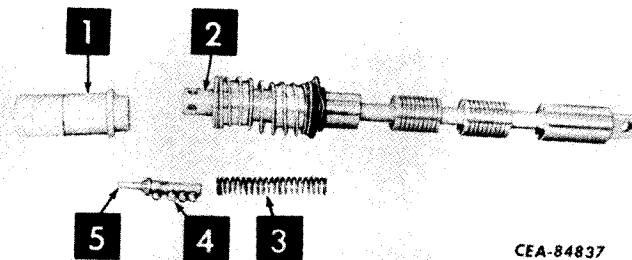

Figure 11-46
After removing plunger cap (1, Fig. 11-46) from the plunger pin (2), slide spring (3), detent cam (5) and detent balls (4) from plunger assembly.
Install detent cam (5, Fig. 11-46) and spring (3) in bore of plunger pin (2) after lubricating cam assembly liberally with multi-purpose grease. Place a punch within the bore of the detent sleeve; depress the detent cam with the punch, place the detent balls (4) in their respective holes and slide the sleeve over the detent cam assembly. Release the punch.